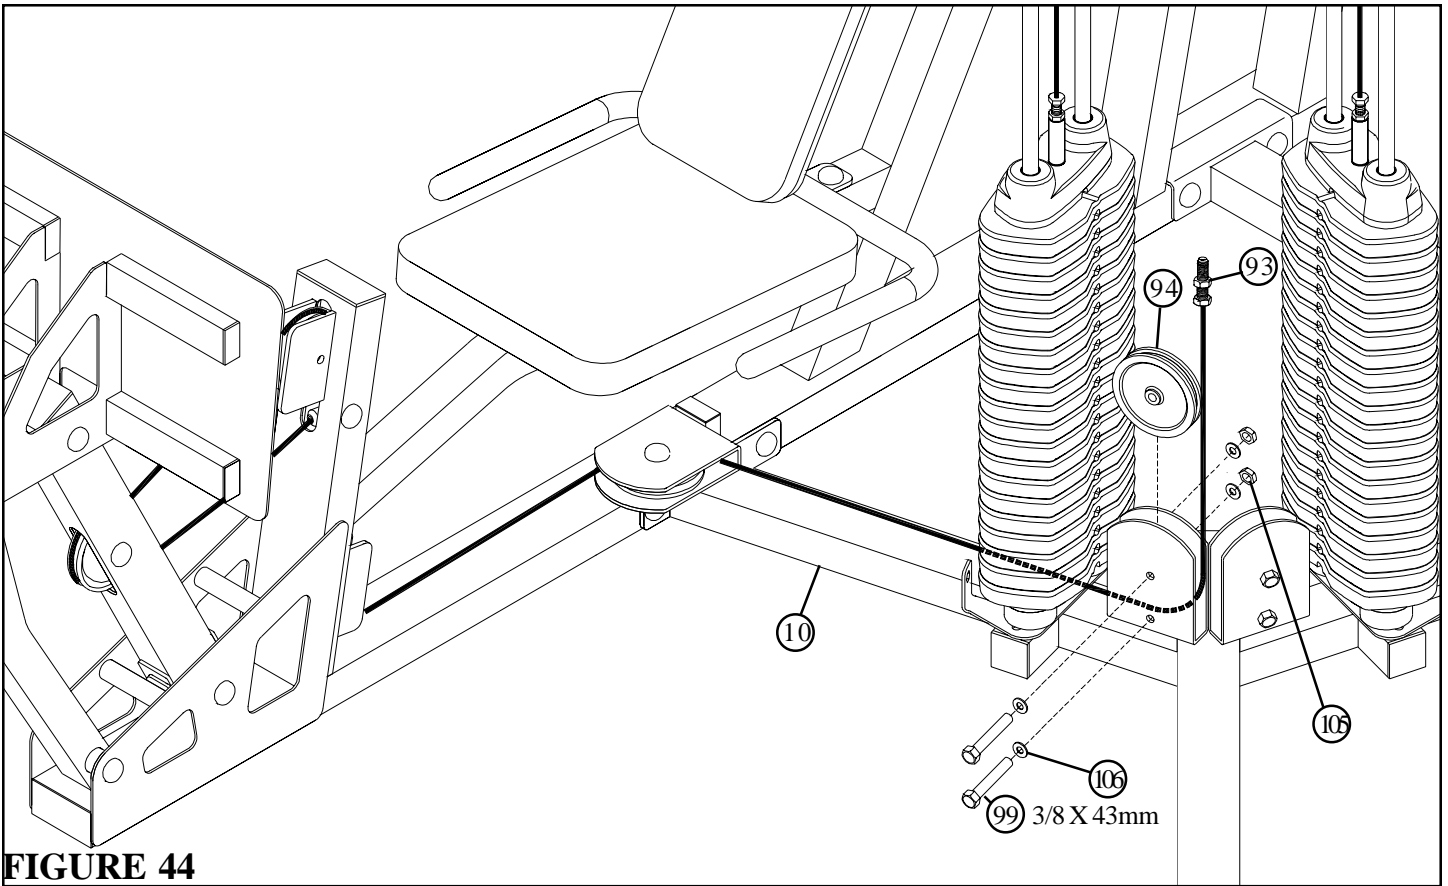

FIGURE 44
- Route the LEG PRESS CABLE (93) under the weight stack and through the bracket on the TOWER BASE (10) and assemble one 4-1/2" PULLEY (94) to the TOWER BASE (10) using two 3/8 X 43mm BOLTS (99), four 3/8" SAE WASHERS (106) and two 3/8" LOW HEIGHT LOCK NUTS (105) as shown in FIGURE 44.